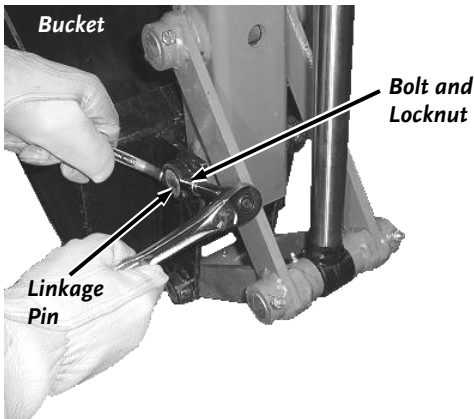

Figure 37
2. Remove the two Bolts and Locknuts from the Bucket Linkage Pins (**Figure 37**).